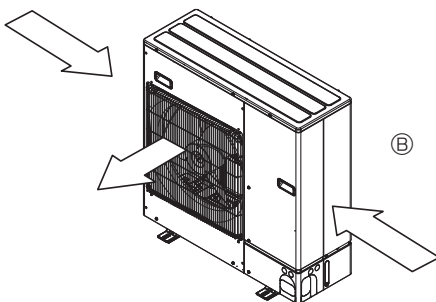

Fig. 3-5
- ③ Position the unit so that the air outlet blows perpendicularly to the seasonal wind direction, if possible. (Fig. 3-5)
(2) When installing a single outdoor unit (Refer to the last page)